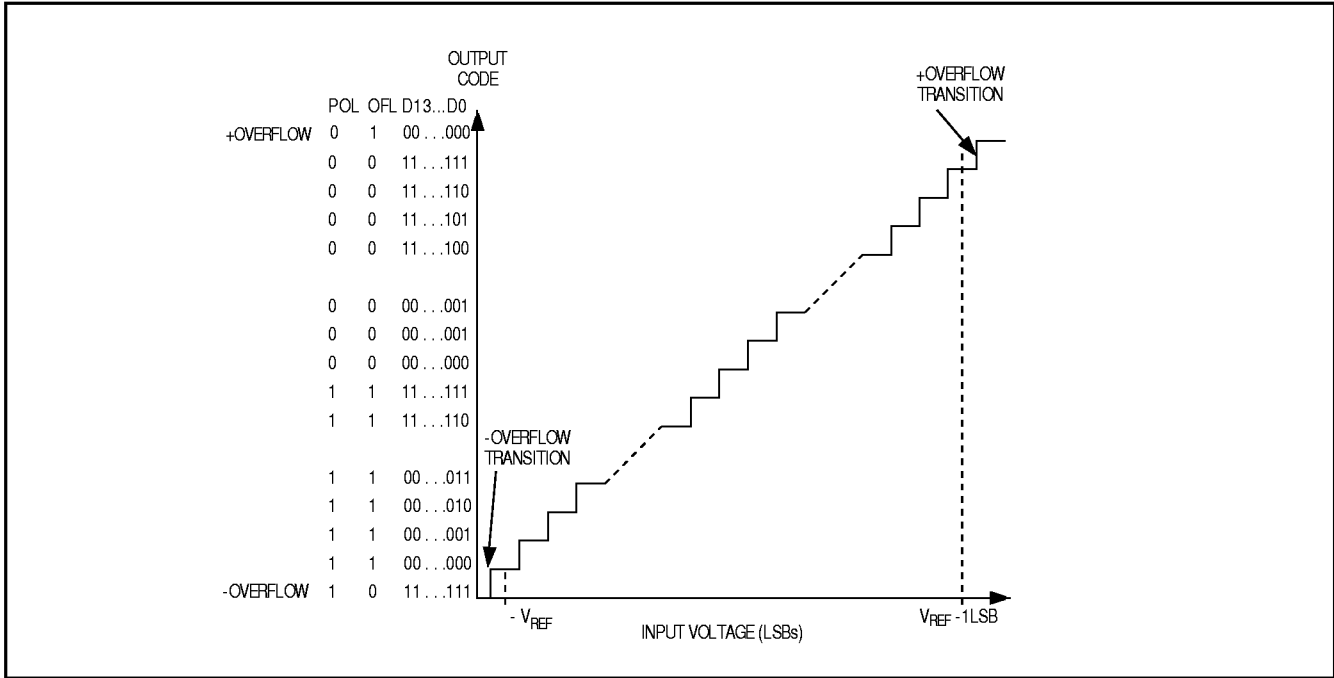
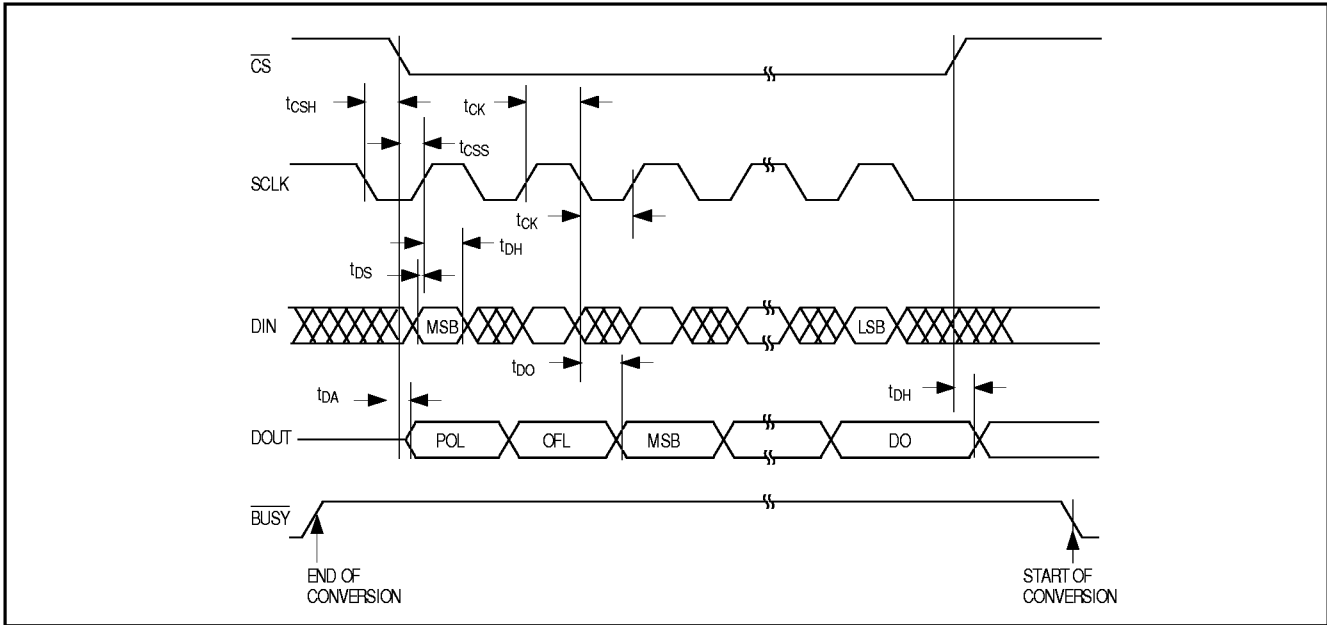

Figure 4. Differential Transfer Function
Figure 6. Detailed Serial-Interface Timing
The output data from the MAX110/MAX111 is arranged in twos-complement format (Figures 4, 5). The sign bit (POL) is shifted out first, followed by the overrange bit (OR), and the 14 data bits (MSB first) (see Figure 6). The MAX110 operates from $\pm 5V$ power supplies and converts low-frequency analog signals in the $\pm 3V$ range when using the maximum reference voltage of $V_{REF} = 3V$ ($V_{REF} = V_{REF+} - V_{REF-}$). Within the $\pm 3V$ input range, greater accuracy is obtained within $\pm 2.5V$ (see *Electrical Characteristics* for details). Note that a negative input voltage is defined as $V_{IN-} > V_{IN+}$. For the MAX110, the absolute voltage at any analog input pin must remain within the $(V_{SS} + 2.25V)$ to $(V_{DD} - 2.25V)$ range.
Data is transferred into and out of the serial I/O shift register by pulling \overline{CS} low and applying a serial clock at SCLK. This fully static shift register allows SCLK to range from DC to 2MHz. Output data from the ADC is clocked out on SCLK’s falling edge and should be read on SCLK’s rising edge. Input data to the ADC at DIN is clocked in on SCLK’s rising edge. A new conversion begins when \overline{CS} returns high, provided the MSB in the input control word ($\overline{NO-OP}$) is a 1 (see *Using the MAX110/MAX111 with MICROWIRE, SPI, and QSPI Serial Interfaces*). Figure 6 shows the detailed serial-interface timing diagram.